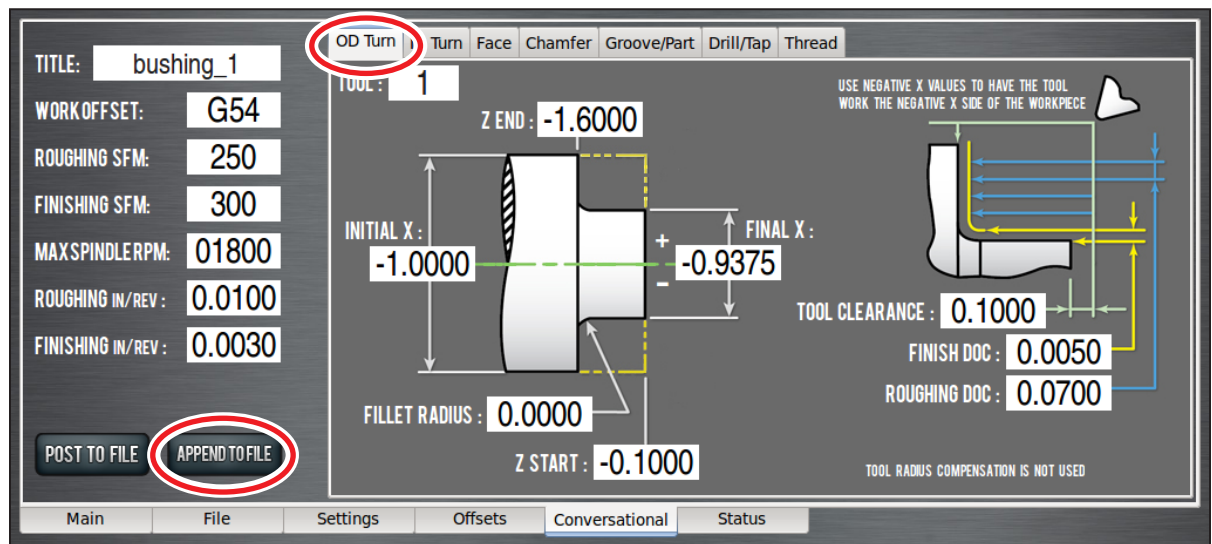

Figure 4.18
1. Click and drag the *MAXVEL* slider (see **Figure 4.18**) to bring it down to zero percent.
2. Click *Cycle Start* (see **Figure 4.18**). If the current tool is not tool 1 and the machine is configured for manual tool changes, the *Cycle Start* LED may blink requesting a tool change. Change the tool in your quick change tool post and confirm by clicking *Cycle Start* again.